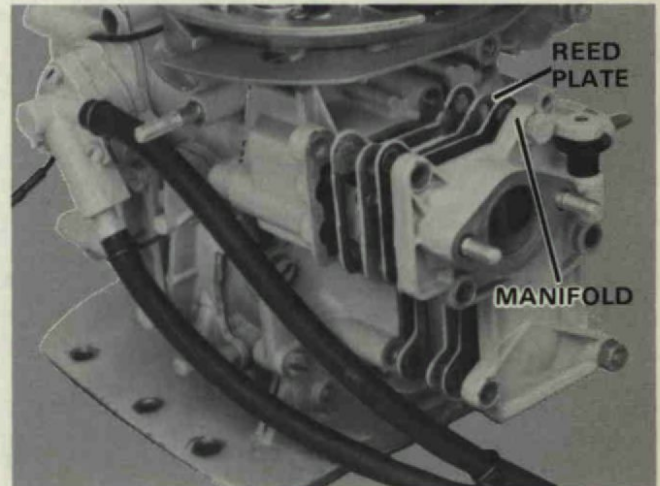

Figure 31. Removing Manifold and Reed Valve Assembly.
3. Remove six (6) screws securing manifold and reed plate to crankcase cover. Figure 31.